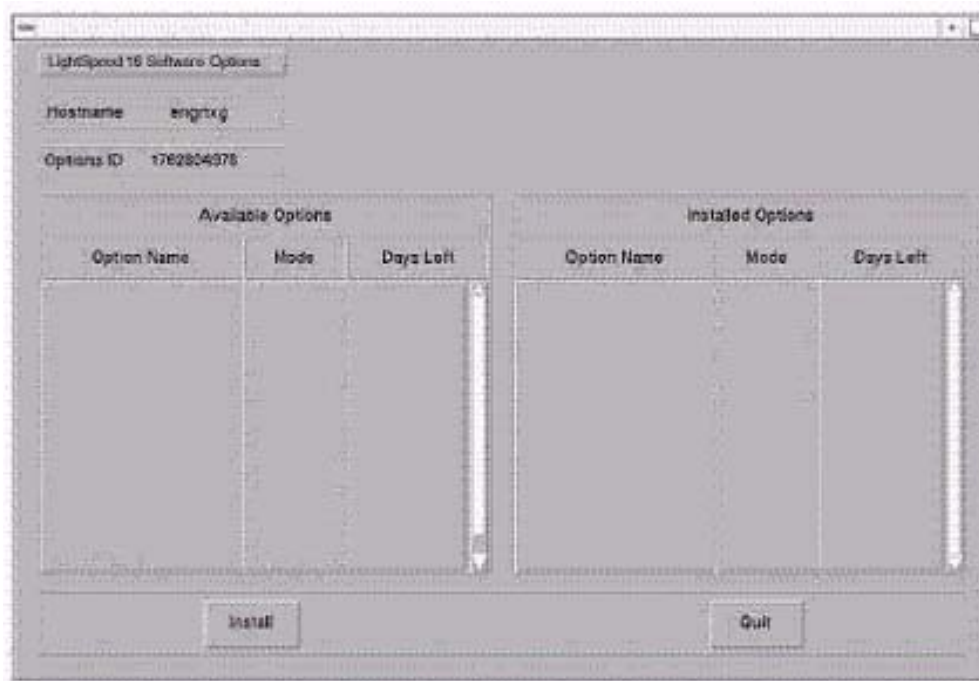

Figure 10-18 Install Options screen
- 4.) Select INSTALL OPTIONS. A blank Software Options screen (Figure 10-18) appears.